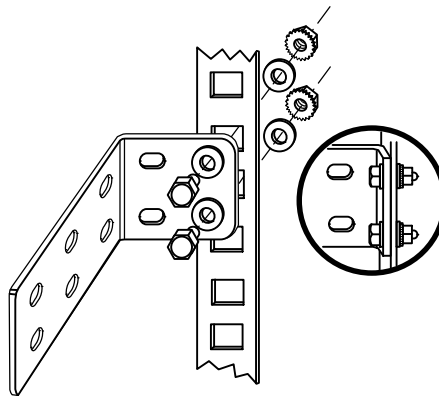

Figure 6. Secure Mounting Bracket to Rail
4. Secure the mounting bracket to the vertical rail using two M5 flat washers (supplied) and two M5 hex nuts with captured star washers (supplied). See Figure 6.